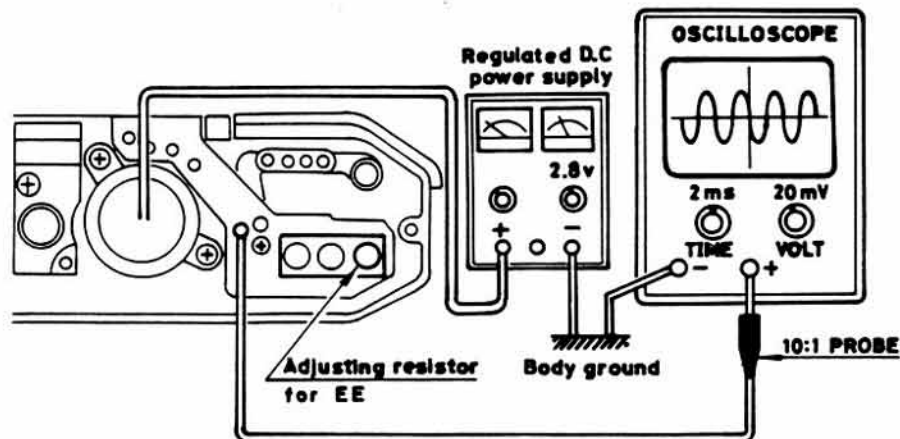

Fig. 19
- ° Connect wires as shown in Fig. 19 and supply 2.8V to the camera.
- ° If this reading is out of range, the adjustment can be made by turning Adjusting resistor for EE as shown in Fig. 19.